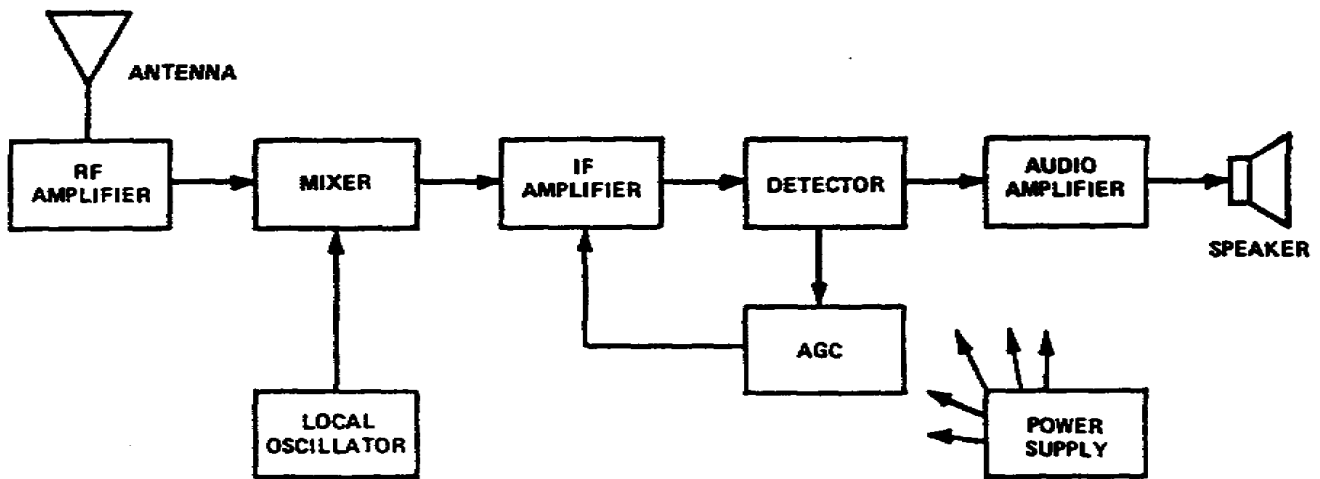

Figure 4-2. The heterodyning process produces four signals through the action of the mixer stage
3. Heterodyne Process. Figure 4-2 is a block diagram of a superheterodyne radio-receiver. This receiver produces a carrier at a new frequency, keeping the information being transmitted unchanged.
a. To help you understand how the superheterodyne radio works, look at the section of the radio in which all of the tuning and station selection occurs (consists of the RF amplifier, the mixer, and the local oscillator). This section of the receiver receives the signal being broadcasted, heterodyne this signal with the one that is produced in the local oscillator and a third signal is produced called the Intermediate Frequency (IF) signal. This IF signal is processed through the radio and soon the original broadcasted information is heard coming out of the speaker.
b. Figure 4-2 illustrates two carrier signals being mixed in the superheterodyne system (receiver). F_1 and F_2 will be heterodyned in the mixer block of the receiver, and the result is the production of four signals. They are: F_1 at 1.5 MHz, F_2 at 1MHz, the sum of the two signals ($F_1 + F_2$) or 2.5MHz, and the difference of the two signals ($F_1 - F_2$) or 0.5MHz. If, however, the incoming signal at F_2 was modulated, then both the sum and the difference signal would contain modulation.
a. The superheterodyne radio has several particular functions (fig 4-2). All of the functions are similar regardless of the components used in the radio. Therefore, whether the radio was a transistor solid-state or a vacuum-tube type, they both use the same functional diagram. We can go on to say that the electronic signal received from the transmitting source or station are processed the same whether the radio is transistorized or vacuum tube.